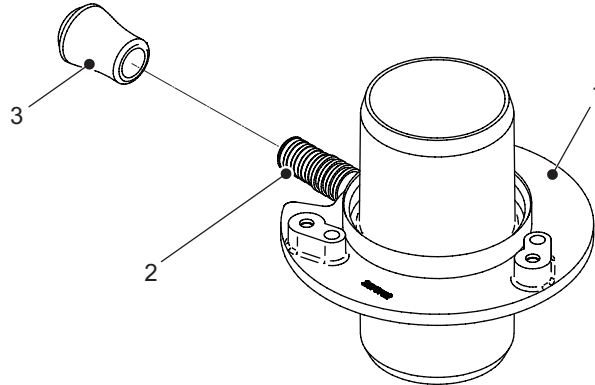

Figure 9: Steam Adapter
- a. Install and secure the end cap (supplied) to the steam adapter pressure port with a spring clamp (supplied). Refer to Figure 9.